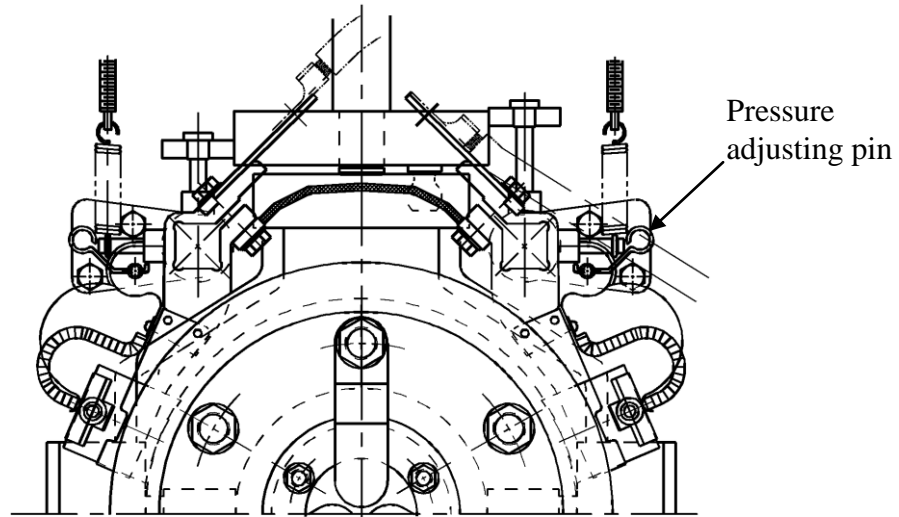

Fig. 25
- The brush pressure may be reduced after use, so it is necessary to re-adjust. For adjustment, please turn adjusting screw, pressure adjusting pin or pressure adjusting plate as shown in Fig.25 to obtain the correct tension ($=0.23 \times \text{brush cross sectional area in cm}^2 \pm 10\% \text{ kg}$).